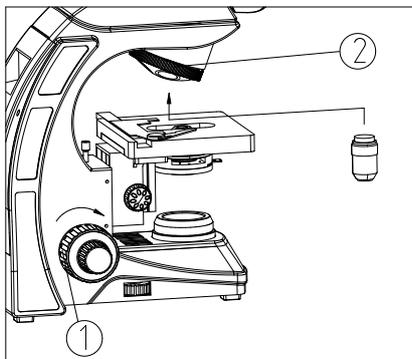

Fig. 4
1. Rotate the coarse focusing knob to lower the stage to a suitable position (see Fig. 4).
2. Install the objectives into the objective nosepiece ② from the lowest magnification to the highest in a clockwise direction from the rear.